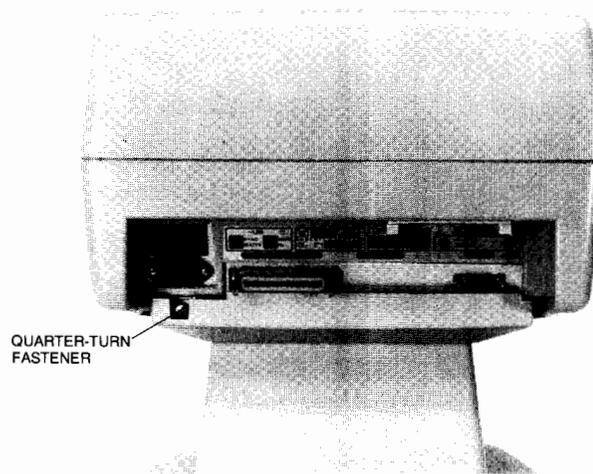

Figure 7-2. 2621 Terminal (Rear View)
2. Loosen the quarter-turn fastener at the left rear of the terminal (as viewed from the rear). See figure 7-2.